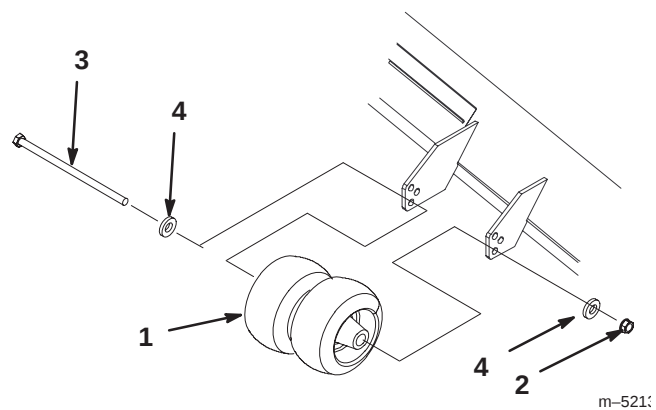

Figure 16
1. After adjusting height-of-cut, remove bolt, washers and nut (Fig. 16).
2. Select a hole position so the gage wheels are a minimum of 3/8 in. (9.5 mm) off the ground for the height-of-cut to be used (Fig. 16).
3. Reinstall the bolt, washers and nut (Fig. 16).